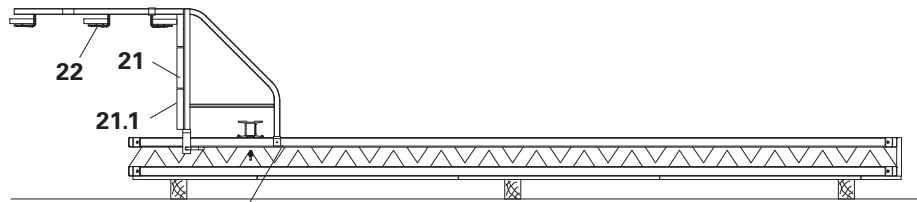
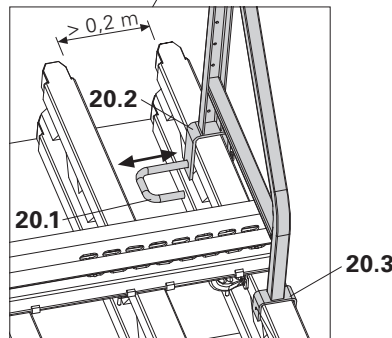

Fig. B2.02
Fig. B2.02a
2. Secure locking pin and secure bottom connecting claw (20.3) with nails. (Fig. B2.02a)
3. Fix planking (21) across complete bracket width from below using Torx 6 x 40 (21.1).
4. Mount and secure guardrails (22) including toe board and, if necessary, lateral guardrails. (Fig. B2.02)